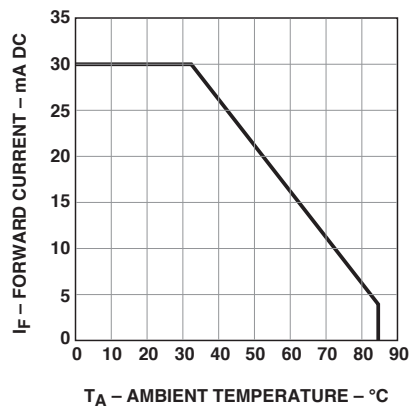

Figure 4. Maximum forward current vs. ambient temperature based on  $T_J \text{ max.} = 115^\circ\text{C}$ .
2. Derate linearly as shown in Figure 4.